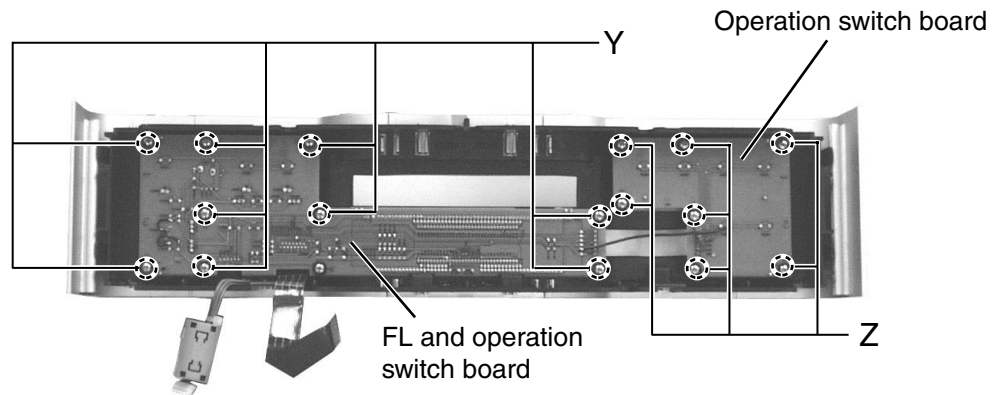

Fig.22
■ Removing the operation switch board/ FL and operation switch board(See Fig.22)